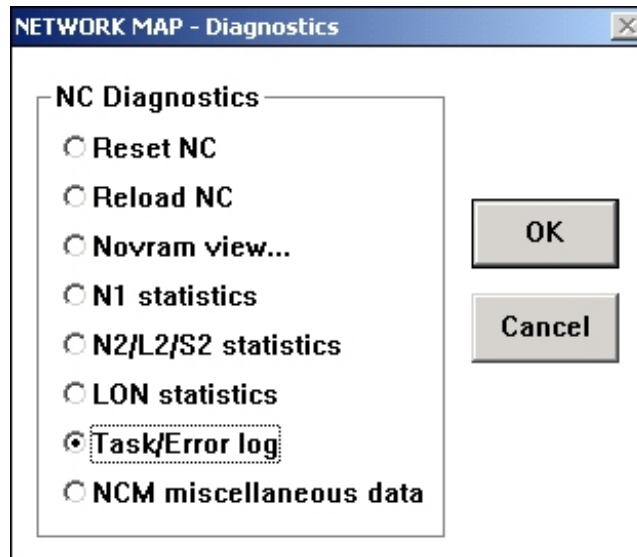

Figure 17-8: Network Map-Diagnostics Dialog Box
3. On the Action menu, click Diagnostics. The NC Diagnostics dialog box appears (Figure 17-8).